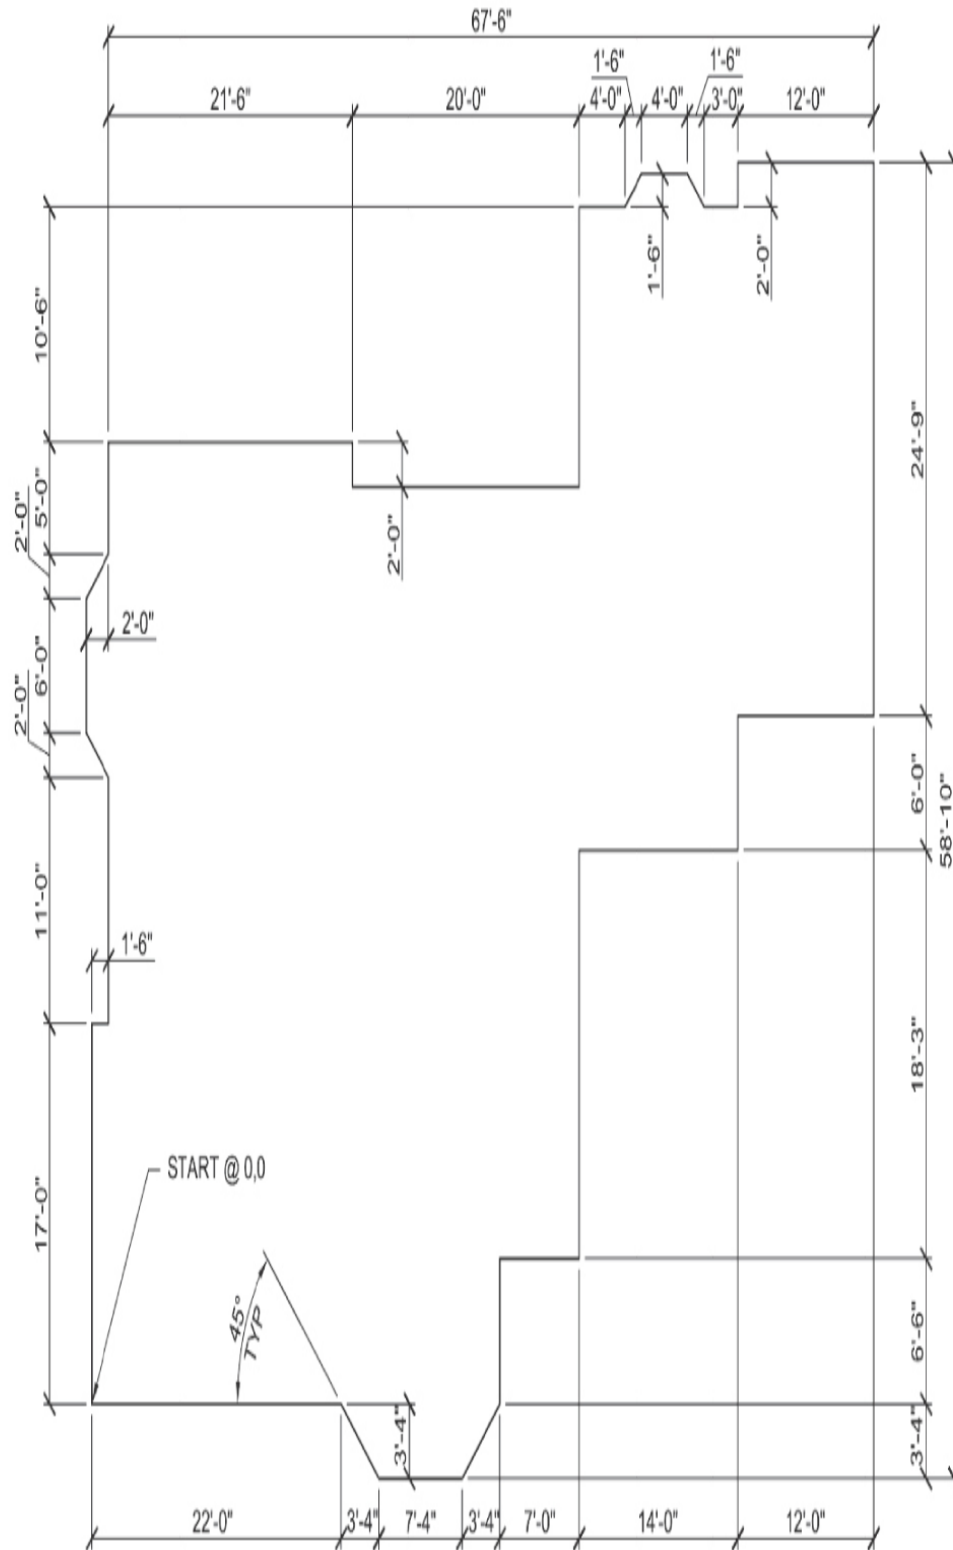

Figure 4-40
5. Draw the building outline as shown in Figure 4-40. Place the corner of the building at 0,0 as shown. **Do not** include dimensions. *Hint:* Draw the outline in a counterclockwise direction.